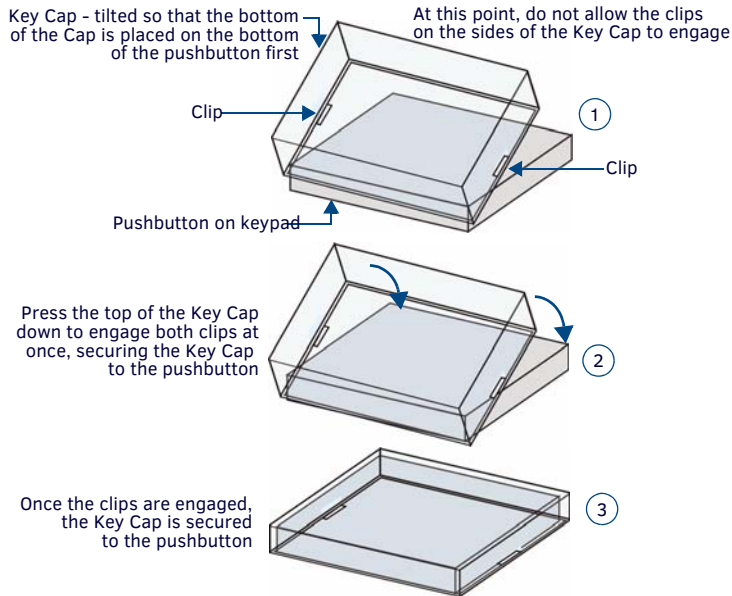

FIG. 7 PLACING A BUTTON LABEL INSIDE A KEY CAP
- Install the Key Cap on the pushbutton (FIG. 7):